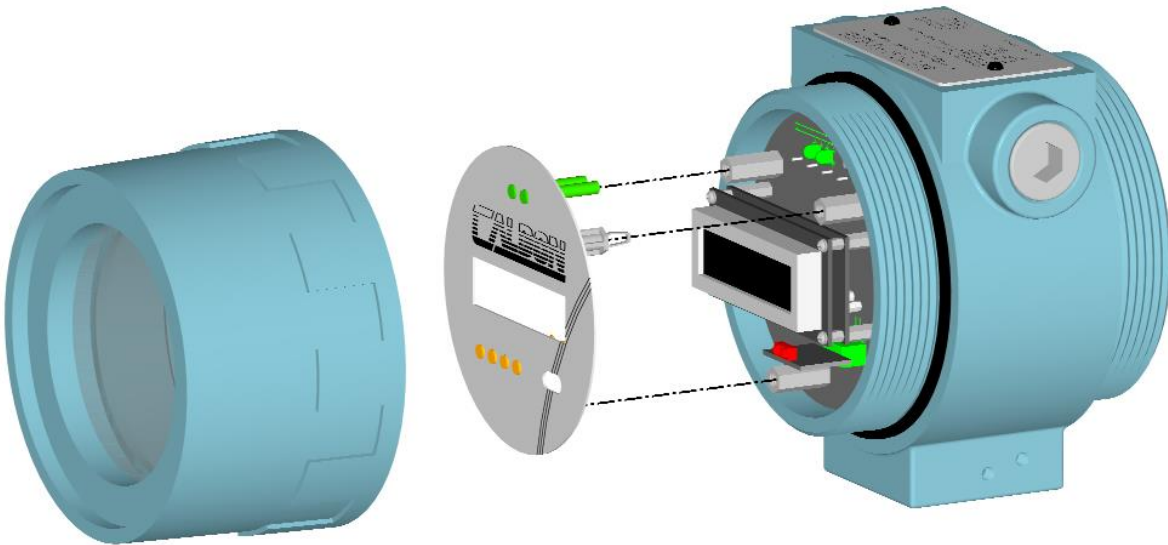

Figure 8.5: Display Cover Removal (Installation)
3. Grasp the edges of the Display cover and gently pull to lift it from three hex standoffs (Figure 8.5). The Power Supply and Display assembly will be visible.